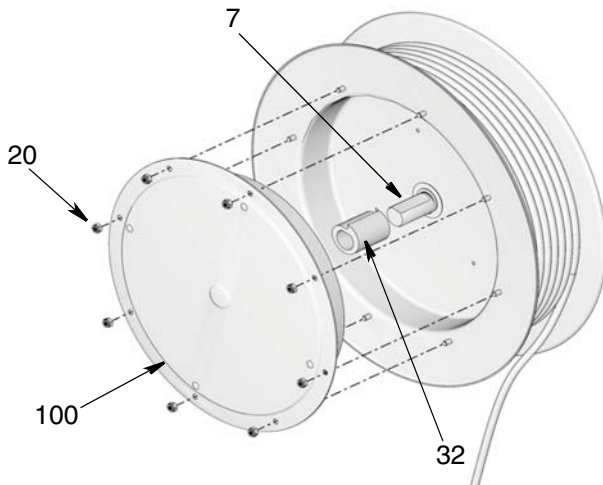

FIG. 2: Size 10 shown
3. **For Size 5 models:** Loosen the six 10 mm hex nuts (20) and remove spring cassette (FIG. 2).
For Size 10 models: Loosen the eight 10 mm hex nuts (20) and remove spring cassette (FIG. 2).
1. Assemble the hub (32) into the new spring cassette (100) supplied in the kit (FIG. 2).
3. **For Size 5 models:** Replace and tighten the six 10 mm hex nuts (20) 26.6 in-lbs (3 N.m) (FIG. 2).
For Size 10 models: Replace and tighten the eight 10 mm hex nuts (20) 26.6 in-lbs (3 N.m) (FIG. 2).